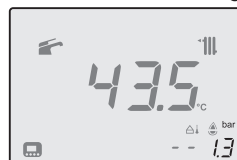

Fig. 2.2
Ensure that the C.H. circuit is regularly filled with water (even if the boiler is only used for D.H.W. supply) checking that the pressure indicated on the bottom part of the display Fig. 2.2.
In the case of incorrect pressure the value is visualised with a  flashing symbol (Fig. 2.2).
- Open the valves of the filling loop and watch the display until it reaches normal filling pressure as shown in Fig. 2.2.